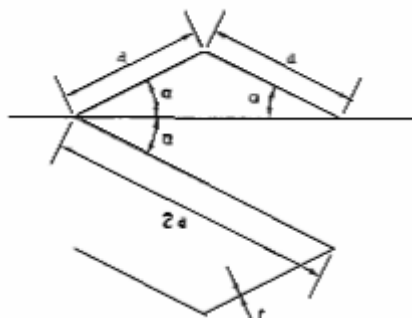

Figure 6
8. A uniform beam has the point-symmetric cross-section shown in figure 6. Making the usual assumptions for a thin-walled cross-section, show that the torsion-bending constant Γ calculated about the shear centre S is $\Gamma = \frac{8}{3}a^5t \sin^2 2\alpha$. The thickness t is constant throughout. [16]